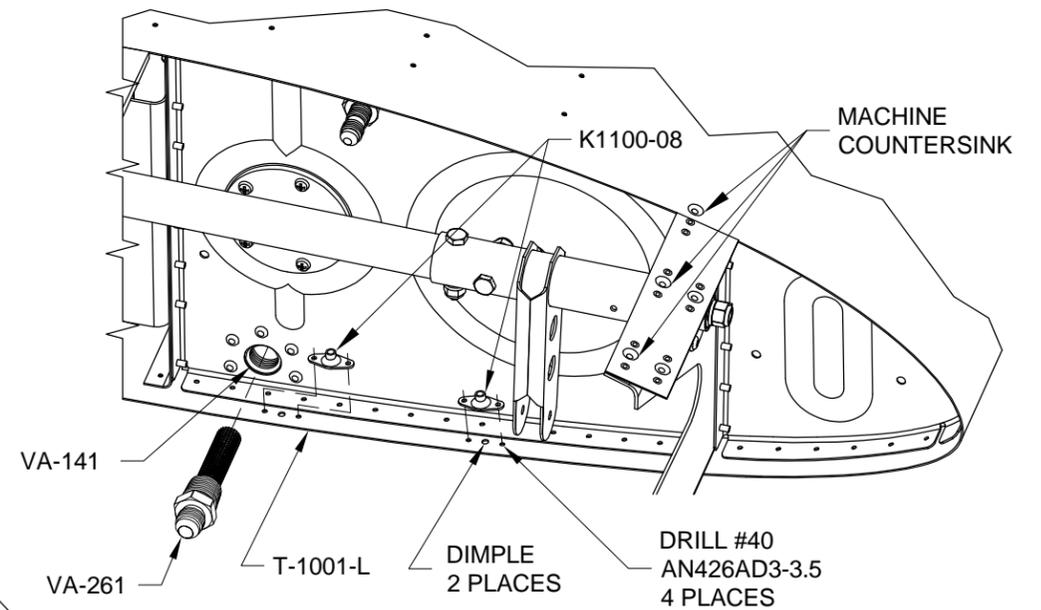

FIGURE 3: ATTACHING TANK SKIN NUTPLATES
Step 5: Final-Drill #40 and machine countersink the T-1001-L Fuel Tank Skin for the nutplate rivets as shown in Figure 3. Final-Drill #19, deburr and dimple the two #8 screw holes in the tank skin. Rivet the nutplates depicted to the tank skin as per the callouts.
Step 6: Machine countersink the top three #19 holes on the tank attach flange shown in Figure 3 as well as the two #19 holes on the bottom of the tank attach flange not shown.
Step 7: Install the VA-261 Fuel Strainer into the VA-141 Fuel Flange and tighten as shown in Figure 3.